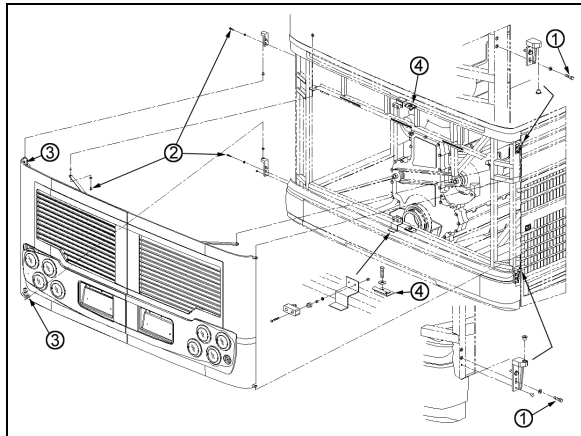

FIGURE 33: ENGINE COMPARTMENT DOORS
1. Loosen the bolts, (1, 2 Fig. 33) holding the hinge to the vehicle structure to shift the door "UP or DOWN".
2. Loosening the bolts (3, Fig. 33) allows the door to be shifted "LEFT or RIGHT" and "IN or OUT".
To adjust the latch mechanism (4, Fig. 33) and the striker pin: